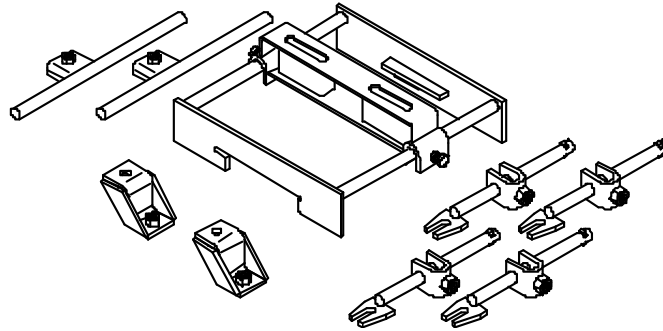

Figure 5
Occasionally pieces of scale or rust from the airline will become lodged under the rubber seats of the air valve causing air leakage. This leakage is easily detected since lift will raise slowly when you connect the air line to the quick coupler inlet even though the valve lever has not been touched. If this occurs, the Inlet Side of the valve needs cleaning. The lift may also lower slowly when you disconnect the airline from the quick coupler even though the valve lever has not been touched. If this occurs, either the Inlet Side or both sides of the valve needs cleaning. To clean, refer to Figure 5 and follow these instructions: A. Remove the adapter (2) from the Inlet Side of the air control valve. Inspect screen (1) for foreign particles and clean as required. B. Remove the spool (7) from the body by pushing on spool (7) (from center toward the outside of valve) with a piece of stiff wire or nail. C. Carefully examine the valve seal (6) for any scale, dirt or foreign matter. If foreign matter is embedded in the valve seal (6), remove the screw (4) and cup (5) from the end of spool (7) and clean the seal (6), turn over the seal and reassemble. D. Lubricate the spool (7) with light chassis grease. E. Reassemble the valve in this order: First, insert the spool (7). Make sure that the spool with the O-Ring (8) is reassembled on the Inlet Side. Second, insert spring (3). Third, assemble adapter (2) into inlet side and plug (10) into exhaust side of body (9). The valve should now operate like new.